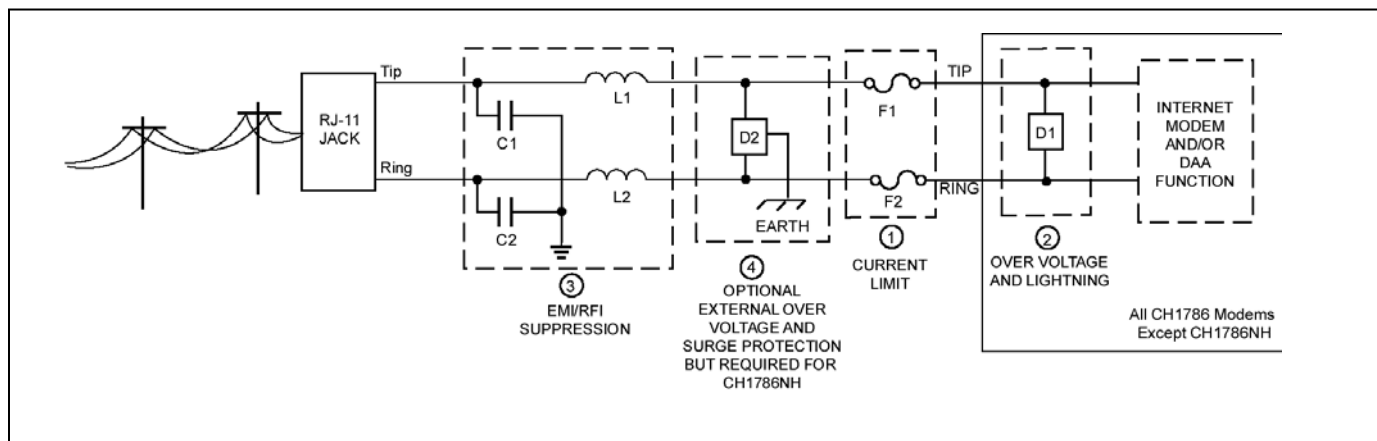

Figure 7. PSTN Line Interface for all CH1786 Products.
- A. Surge Protection is provided by internal circuitry contained within all CH1786 Products except the CH1786NH (see Figure 7). No additional external components are required to maintain conveyed FCC Part 68 approval for all CH1786 Products (excluding the CH1786NH).